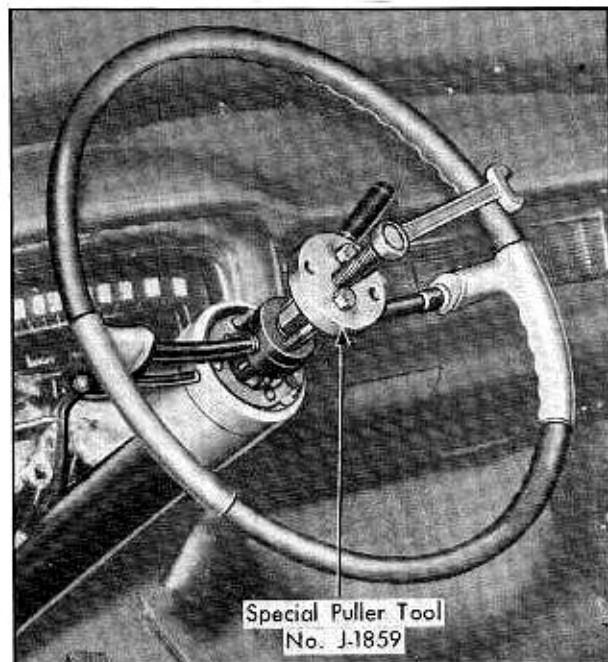

Fig. 7-14 Removing Steering Wheel
6. Remove steering wheel using Special Puller, Tool No. J-1859, Fig. 7-14.
(9) Installation of Steering Wheel